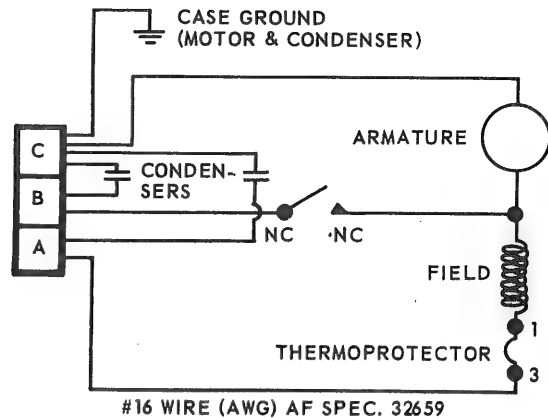

Figure 2-17. XW20173 Motor Schematic
a. Rewire motor in accordance with wiring schematic. (See figure 2-17.) Soft solder all terminal connections.